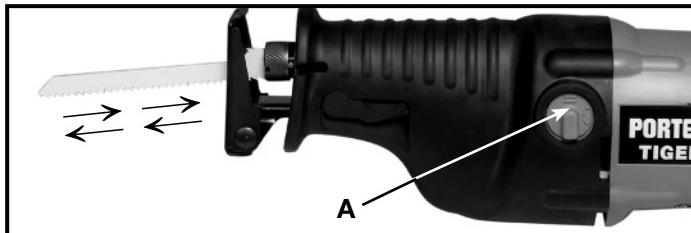
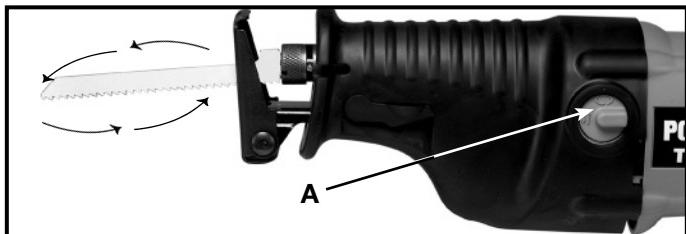

Fig. 10
Fig. 11
The **Model 748** has dual blade motion: you have a choice of straight reciprocating motion, as shown in Fig. 10, or orbital motion as shown in Fig. 11. Straight reciprocating motion should be used for all metal cutting operations, and for wood cutting applications where finish is more important than speed. Orbital motion is used for fast cutting of wood.
To set saw for straight reciprocating motion: rotate knob (A) Fig. 10, clockwise so that the bar is vertical (opposing arrow symbol up), as shown in Fig. 10.
To set saw for orbital motion: rotate knob (A) Fig. 11, counterclockwise so that the bar is horizontal (oval arrow symbol up), as shown in Fig. 11.
⚠WARNING ELECTROCUTION RISK. Do not use the tool if knob (A) Fig. 10 & 11 is broken. Exposed metal parts may be made live if the blade cuts into live wiring within a wall.